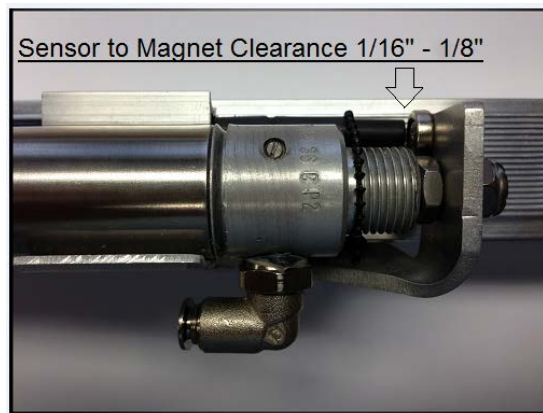

Figure 3
3. The sensor mounted on the track must have the correct clearance to function properly. It maintains its position from multiple wire ties holding the sensor conduit to the cylinder. It is calibrated and tested at the factory, only attempt to adjust it if it out of specifications. (Figure 3)